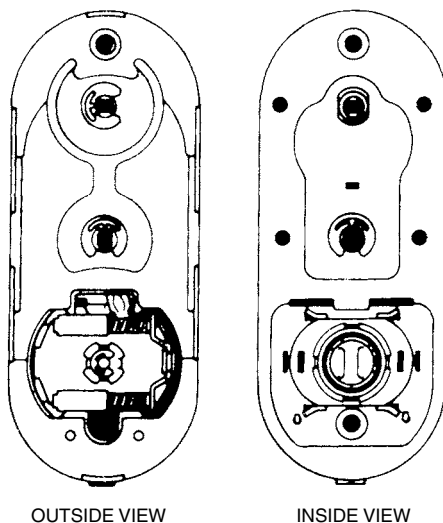

Figure 13.70 Changing hand, Step 1.
1. Disengage the retaining rings (Fig. 13.70).